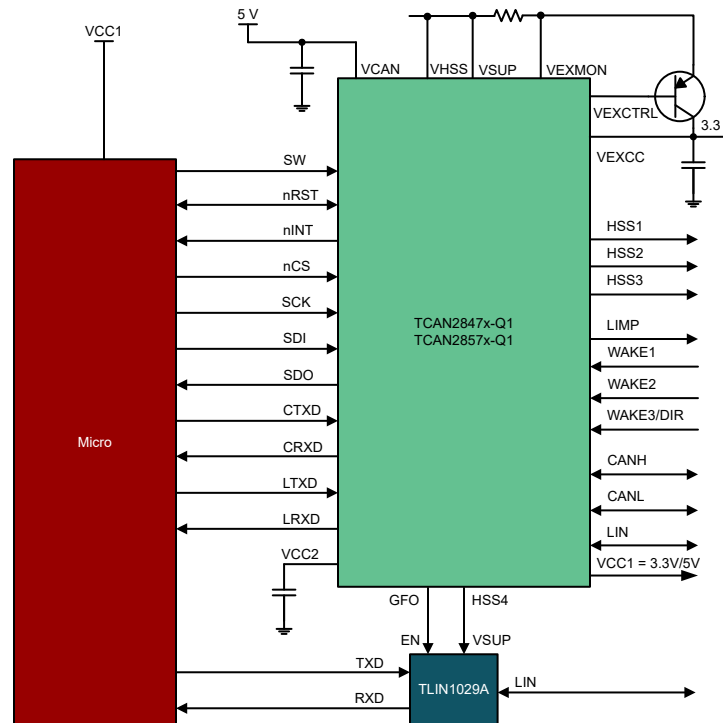
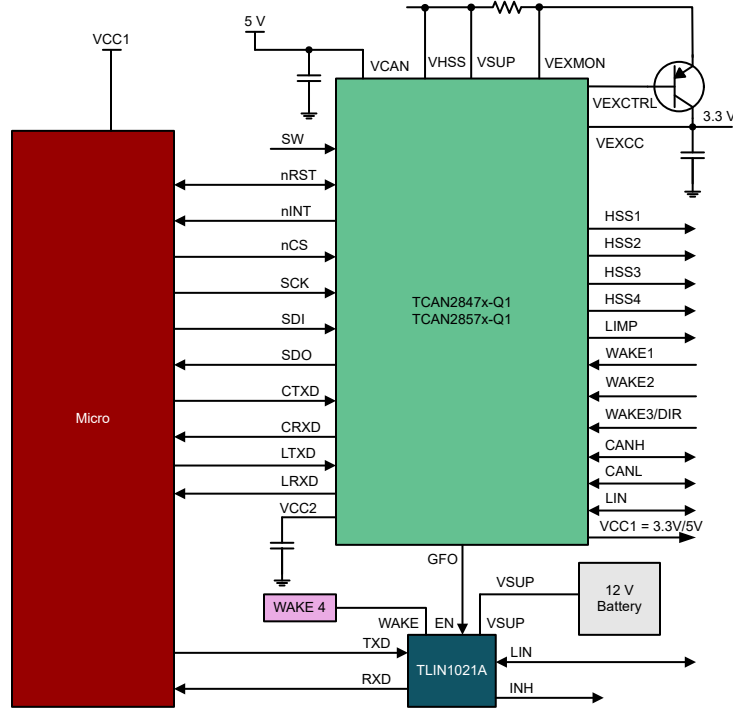

Figure 10-3. Channel Expansion Simple LIN Transceiver
Figure 10-4. Channel Expansion Enhanced LIN Transceiver
- On CAN FD transceiver and two LIN transceivers by using the TCAN2847x-Q1 with a LIN transceiver, see Figure 10-4
Figure 10-3 and Figure 10-4 show high level diagrams on how the TCAN2845x-Q1 or TCAN2847x-Q1 can control an external LIN transceiver. Both of these show a high side switch (HSS) providing the power to the transceiver. When the TCAN284x-Q1 goes to sleep mode the HSS is turned off thus turning off the power to the transceiver. If this is not desired the transceiver VSUP can be connected to the same VSUP power as the device. To configure the device to control the LIN transceivers the following register and bits need to be configured.